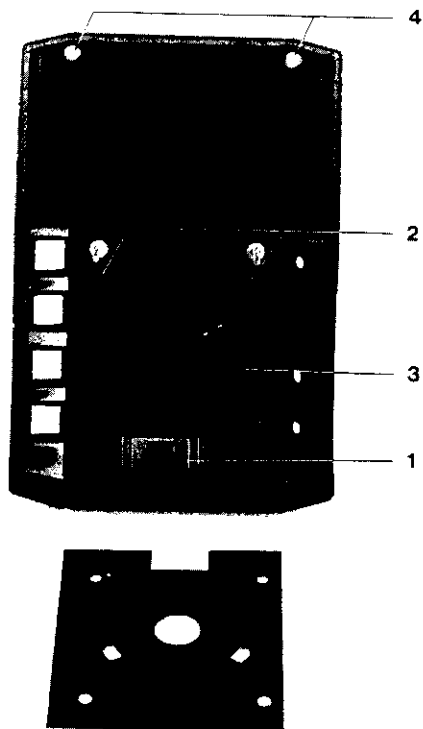

Fig. 41.
4.3.1.2. Topcover part of S2 (Figure 41 and 42)
- Remove the locking spring by bending out the two lips (item 1 Fig. 41)
4.3.2. Function switch S1 (Figure 41)
4.3.3. Window (Figure 41)